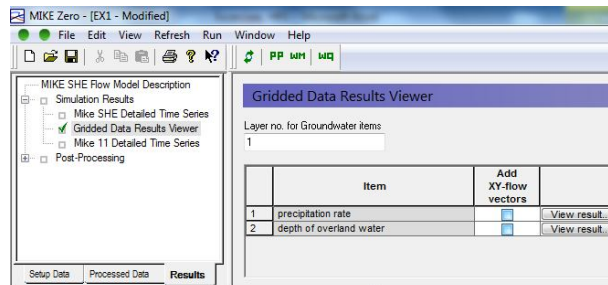

Figure 127: Results tab
- Press the "Results" tab (See Figure 127)